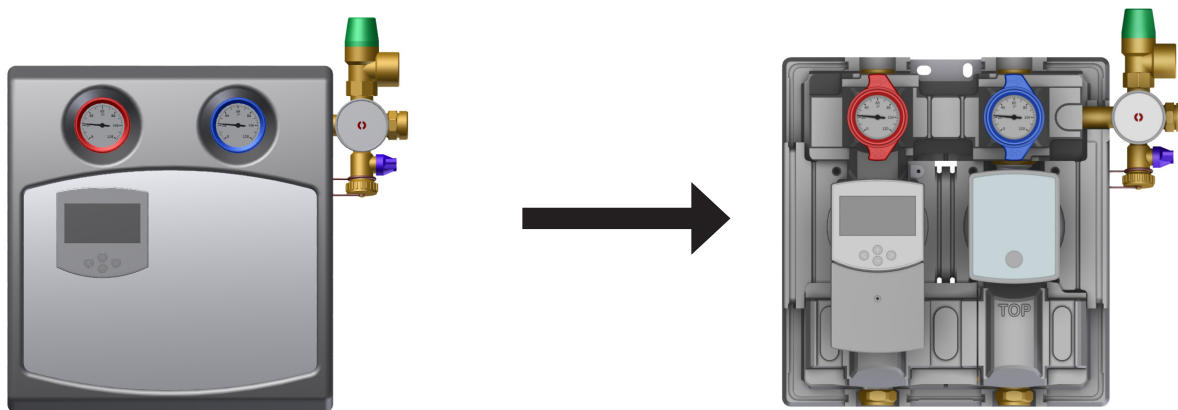

Fig. 4: Dismantle encasing (represented in type 8130 + controller)
- Dismantle the front encasing of the pump assembly (see Fig. 4 on page 10).
- Dismantle the front encasing of the solar station (see Fig. 4 on page 10).